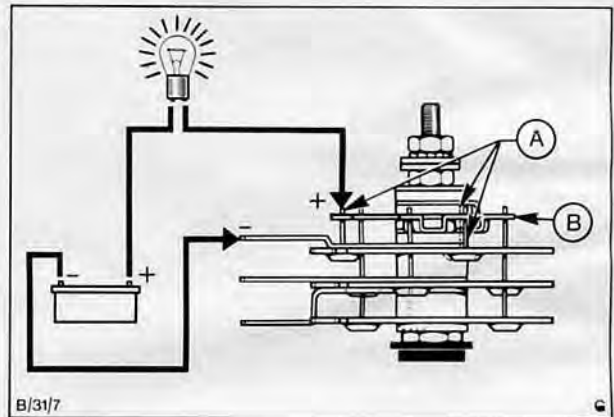

Fig. 45. A – Field diodes
- (a) Connect test equipment as shown in Fig. 45. With negative connection coupled to top plate, or single small terminal and positive connection to one of the three diode stems connected to top plate, bulb will illuminate if diode is operating correctly.